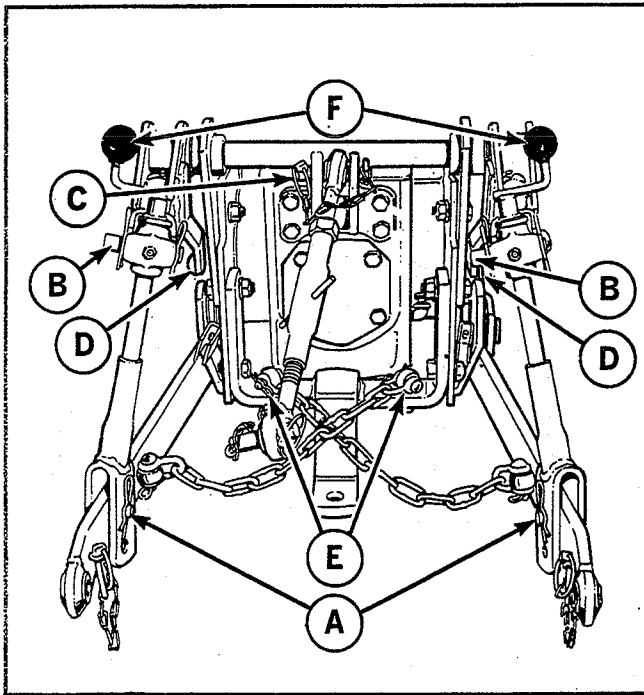
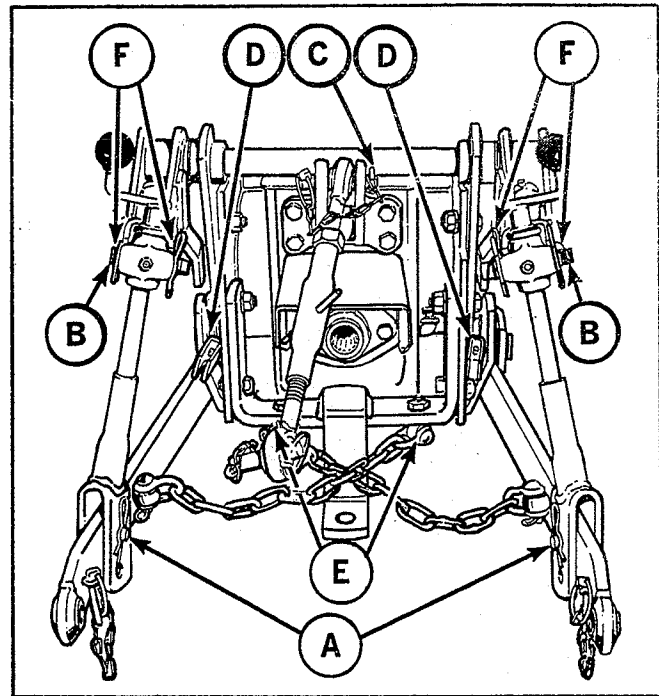
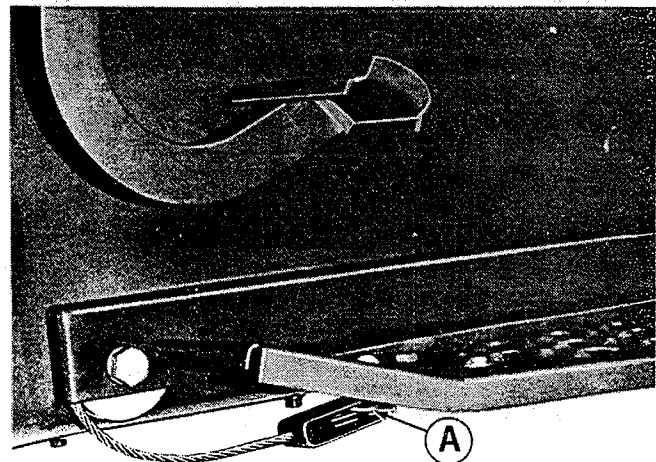

Figure 48. Three-point hitch.
Figure 49. Three-point hitch.
Figure 50. Center lift cable attached to footrest.
(Figure 48 and 49) The three-point hitch provides a versatile and convenient means of mounting and controlling rear mounted attachments such as a rotary tiller or moldboard
**DRAFT ARMS:** The three-point hitch on the Simplicity 4041 meets category O Dimensions as set by the Society of Automotive Engineers and the American Society of Agricultural Engineers when the draft arms are fastened through the lower holes of the lower lift link (Figure 48, item A). However, because of the unique design of the 4041 tractor, a more effective line of pull to most attachments is achieved by fastening the draft arms through the upper holes of the lower lift link (Figure 49, item A). Unless the Attachment Owners Manual specifies otherwise, the upper holes of the lower lift arms should be used as shown in figure 49.
**FLOAT LOCKOUT PINS:** When using attachments such as a Simplicity rotary tiller which has its own depth setting device, it is desirable to allow the draft arms to float (move freely up and down). To do this, remove the two spring clips and set the lockout pins with the larger end of the pins exposed (Figure 48, item B). Figure 49, item B shows the lockout pins set so the draft arms are held rigid to the rockshaft arm.
**TURNBUCKLE LINK:** The turnbuckle link is used to level the attachment fore and aft when at its working depth. Hitching an attachment is made easier by adjusting the link to align the pin holes. To adjust the length of the link, turn the center turnbuckle until the desired length is obtained. The turnbuckle link is adjustable 11-1/2 to 15 inches in length. In addition, two holes are provided in the mounting bracket for attaching the upper link to the tractor. Unless the Owners Manual for an attachment specifies otherwise, use the top hole (Figure 49, item C). Figure 48, item C
**CENTER LIFT CABLES:** When a center mounted attachment such as the sickle bar or center mounted mower is used, the lift cables should be fastened to the rocker arm with the two pins and spring clips (Figure 48, item D). When no center attachment is mounted the pins and spring clips should be removed as shown at Figure 49, item (D) and used to fasten the front of the cables to the underside of the tractor foot rests (Figure 50, item A).
chains to the drawbar should be mounted in the drawbar so the chains are fastened above the drawbar when it is desirable to restrain the attachment equally whether it is lowered or raised (Figure 48, item E). They should be attached in this manner when the rotary tiller is used. When using an attachment such as a plow where less restraint is required when it is in the lowered position and more restraint in the raised position, the eyebolts should be turned around so the chains are hooked below the drawbar (Figure 48, item E). If the drawbar has been removed to allow additional clearance such as when cultivating, the eyebolts for the restraining chains can be placed through the lower drawbar mounting holes in the frame. See the Attachment Manual for more information.
**LEVELING CRANKS:** (Figure 48, item F) The two leveling cranks can be used to level an attachment mounted to the three-point hitch. They can also be used to change the high and low limits of the draft arms. Turn them clockwise if you wish the hitch to raise higher and counter-clockwise to allow the hitch to be lowered closer to the ground. The leveling cranks are also convenient for adjusting the height of the draft arms when hitching an attachment.
**REMOVING THE THREE-POINT HITCH:** The three-point hitch may be easily removed from the tractor by removing the spring clips and pins at the seven positions marked C, E, and F in figure 49. Although the pins holding the draft arms to the tractor frame will not slide all the way out, the spacer and draft arms will slide off the end of the pin after the spring clip has been removed.